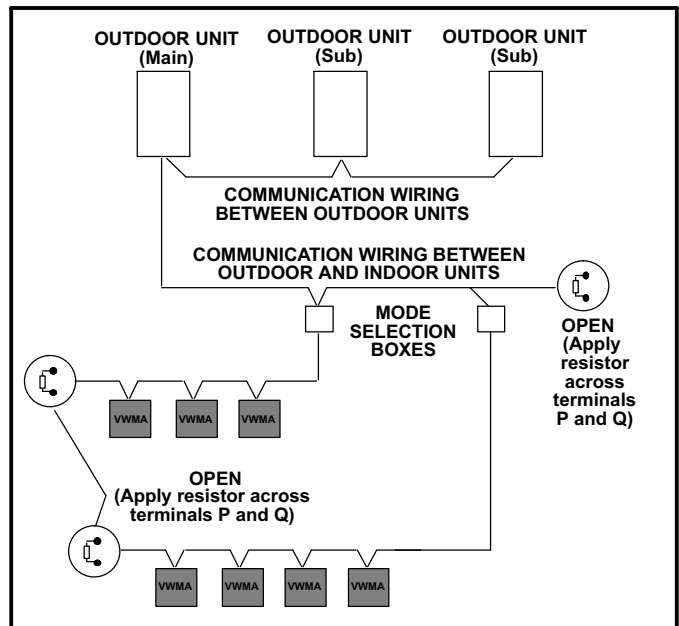

Figure 11. Typical Series Wiring of Indoor Units (with resistors)
- 3 - If the indoor unit is the final unit in a group that is wired in series, install the provided resistor across terminals P and Q. Refer to figure 11.